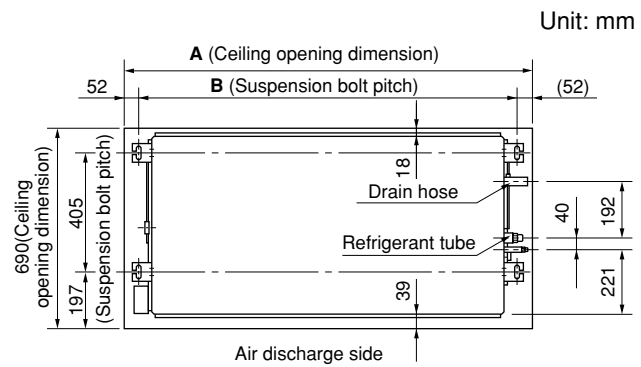

Fig. 3-18
- (2) Follow the diagrams to make the holes in the ceiling. (Figs. 3-18 and 3-19)
- (4) Cut the ceiling material, if necessary. (Figs. 3-18 and 3-19)